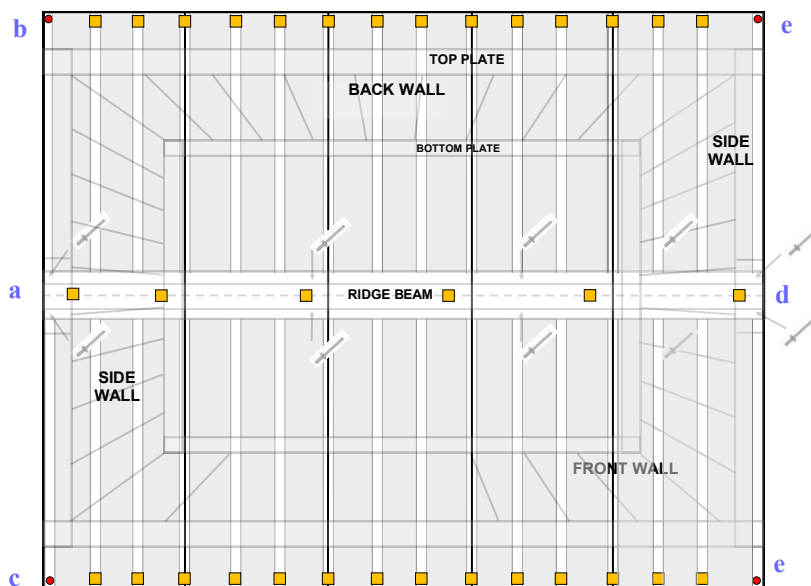

fig.2
- Rivet the Ridge Cap to the centre of the roof using 8 x rivets as shown (fig.2).